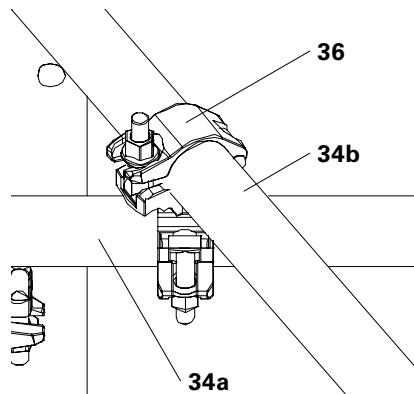
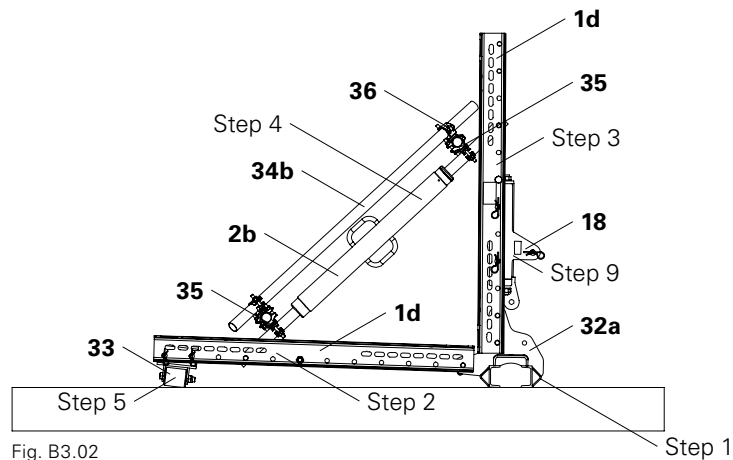

Fig. B3.03a
Fig. B3.02
2. Bolt the Steel Waler SRU U120 (1d) vertically onto the Rail 100 VARIOKIT (32a) using 2x fitting pins \varnothing 21 mm (26). (Fig. B3.02)
3. Bolt the Steel Waler SRU U120 (1d) horizontally onto the Rail 100 VARIOKIT (32a) using 1x fitting pin \varnothing 21 mm (26).
4. Install the Heavy-Duty Spindle SLS (2b) using 2x fitting pins \varnothing 21 mm (26).
5. Install the Pressure Roller VARIOKIT (33) using 2x fitting pins \varnothing 21 mm (26).
6. Horizontally mount Steel Scaffold Tubes (34a) using Standard Couplers RA 48/48 (35) on the thread of the Heavy-Duty Spindle SLS 100/180 (2b) (top and bottom).
7. Diagonally fix Steel Scaffold Tubes (34b) to the horizontal Steel Scaffold Tubes (34a) using Swivel Couplers SW 48/48 (36). (Fig. B3.03a)